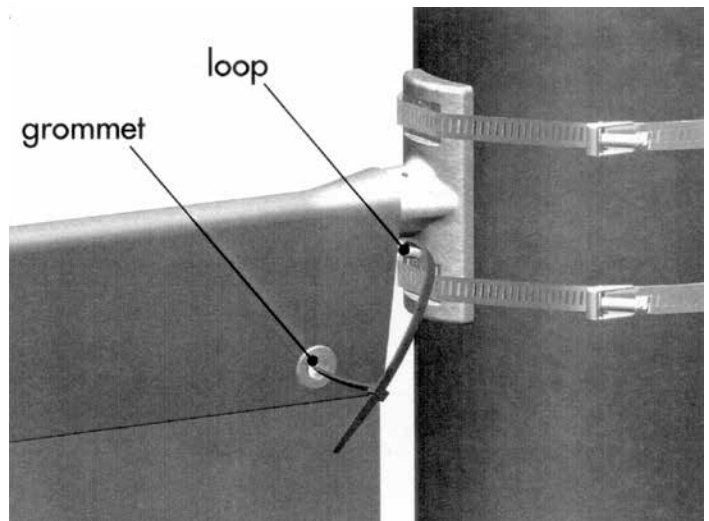

Figure 2
- ❻ Insert the nylon cable tie or #18 gauge wire through grommet(s) in banner(s). Either put through the loop in the casting(s) or wrap around the utility pole and secure. **See Figure 2.** This must be done to secure the banners to the pole.